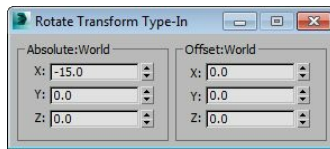
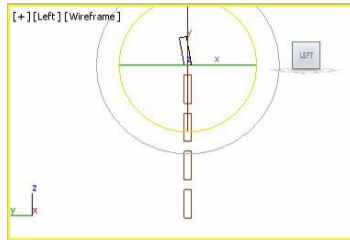

Figure 2-66 The *Rotate Transform Type-In* dialog box
Figure 2-67 The *horizontal back support005* geometry after rotating in the *Left* viewport
- In the **Absolute:World** area, set the value **-10** in the **X** spinner, as shown in Figure 2-66 and then press the ENTER key; *horizontal back support005* gets rotated, refer to Figure 2-67. Now, close the **Rotate Transform Type-In** dialog box.